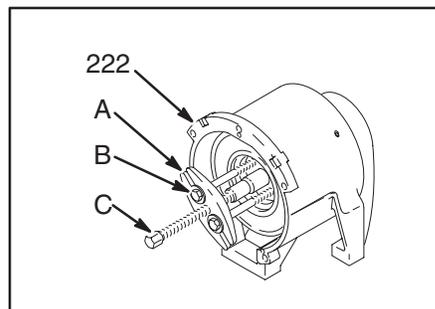

Fig. 11
**NOTE:** The clutch assembly (212) includes the armature (212a) and rotor (212b). The armature and rotor must be replaced together so they wear evenly.
**NOTE:** If the pinion assembly (219) is not yet separated from the clutch housing (222), follow Steps 1 to 4. Otherwise, start at Step 5.
**NOTE:** Refer to Fig. 11 for this procedure.
2. Disconnect the hose (63). Remove the spring clips (49,52) and drain hose (51).
3. Remove the bottom two screws (3) and lockwashers (4) from the clutch housing (222) and then remove the top three screws and lockwashers.
4. Tap lightly on the back of the bearing housing (11) with a plastic mallet to loosen the drive housing assembly (5) from the clutch housing (222). Pull the assembly away.
5. Remove the armature (212b) from the hub inside the pinion housing (219).
- a. Remove the four screws (213). Install two of the screws in the threaded holes in the rotor. Alternately tighten the screws until the rotor comes off.
- b. Use a standard steering wheel puller (A) and two 1/4–22 x 3 or 4 in. long screws (B). Replace the short screws of the steering wheel puller with the longer screws (B). Turn the screws (B) into the threaded holes of the rotor. Tighten the long screw (C) until the rotor comes off. See the Detail in Fig. 11.